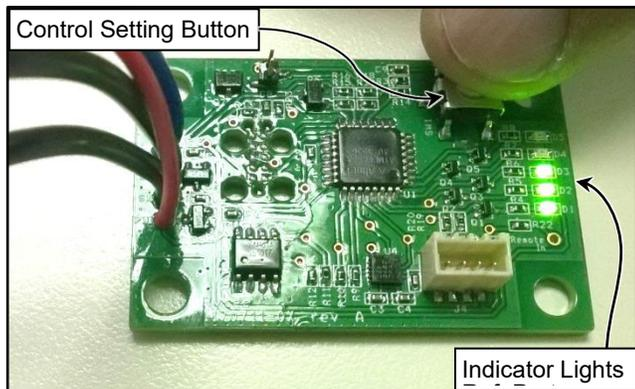

Figure 48
6. Check to see what the current setting is on the Impact Sensor. Do so by quickly pressing and releasing the Control Setting Button. The factory setting is @ 3. The indicator lights will light up as shown for approximately 3 seconds. (See Figure 48)
6. RESET the Impact Sensor by depressing the Control Setting Button and holding it down until the level indicator lights (D1 thru D5) turn on and then turn off. (See Figure 48)